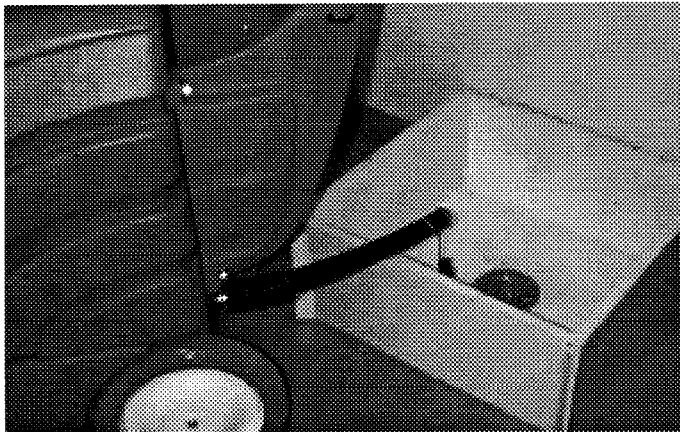

Fig. 11
2. Remove drain hose from holder, position hose over floor drain and twist off knob to drain. (Figure 11)